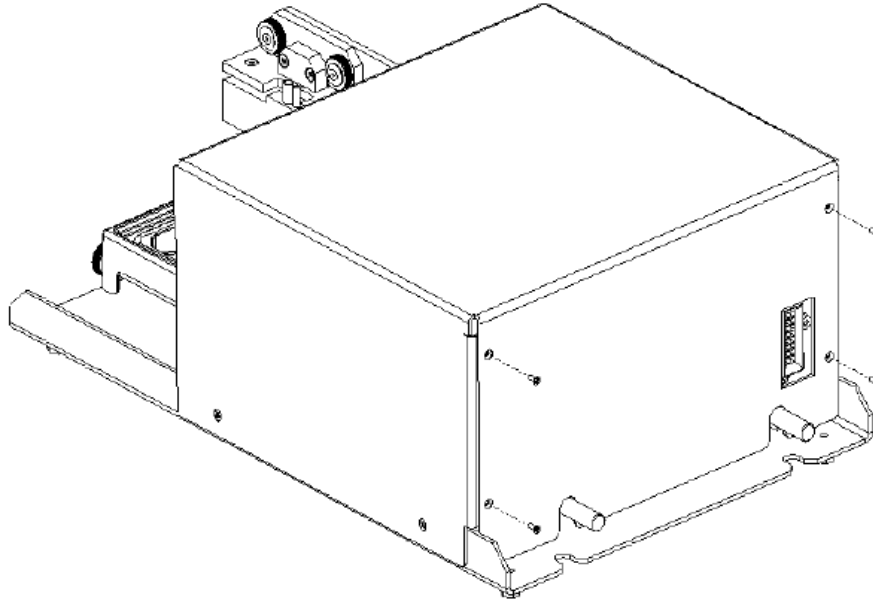

Figure AA-3: Removal of Rear Screws
1. Remove the four screws at the rear of the enclosure to unsecure the folds (Figure AA-3).